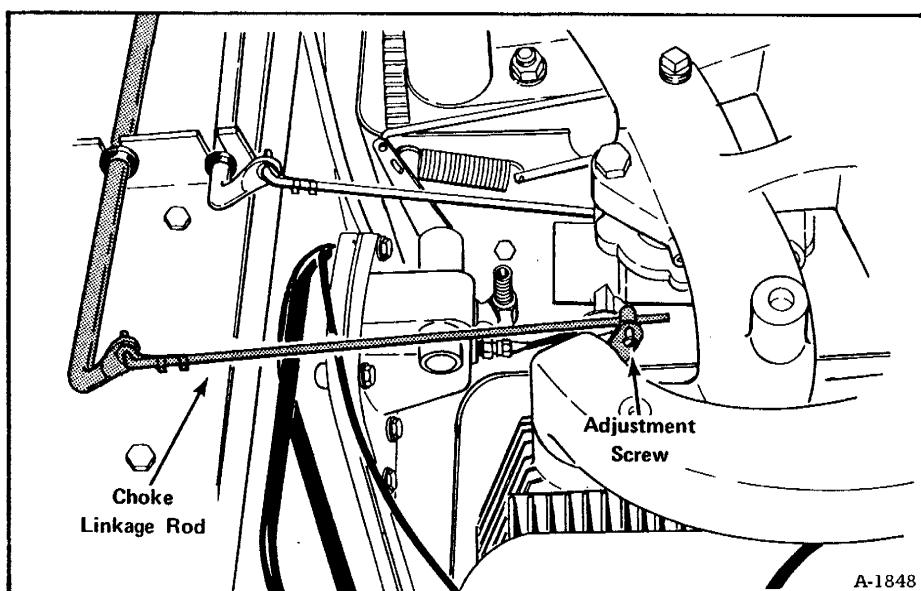

Fig. 1-18 Choke Adjustment
- (1) Loosen the adjustment screw at the engine (Fig. 1-18).
- (2) Hold the choke control knob about $1/8"$ (3 mm) from full-choke position.
- (3) Hold the choke on the carburetor completely closed, then tighten the screw.